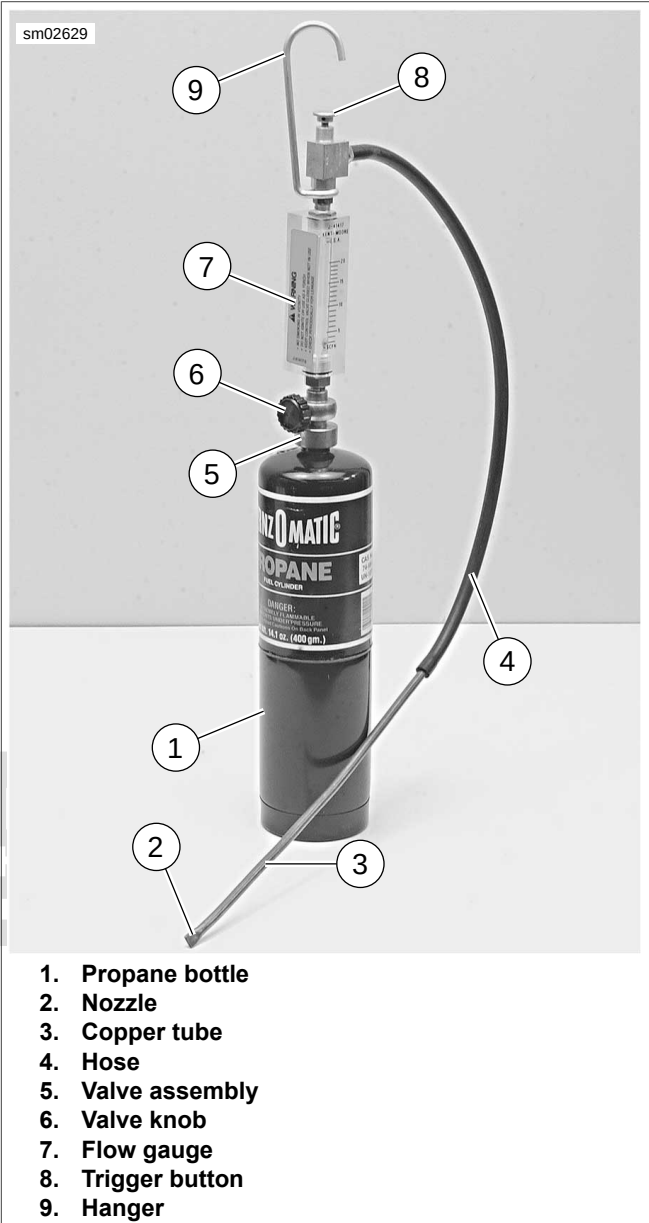

Figure 4-34. Leak Tester
1. See Figure 4-34. Make sure valve knob (6) is closed (fully clockwise).
2. Screw valve assembly (5) onto propane bottle (1).
1. See Figure 4-34. Press and hold trigger button (8).
2. Slowly open valve knob (6) until pellet in flow gauge (7) rises 5-10 SCFH on gauge.